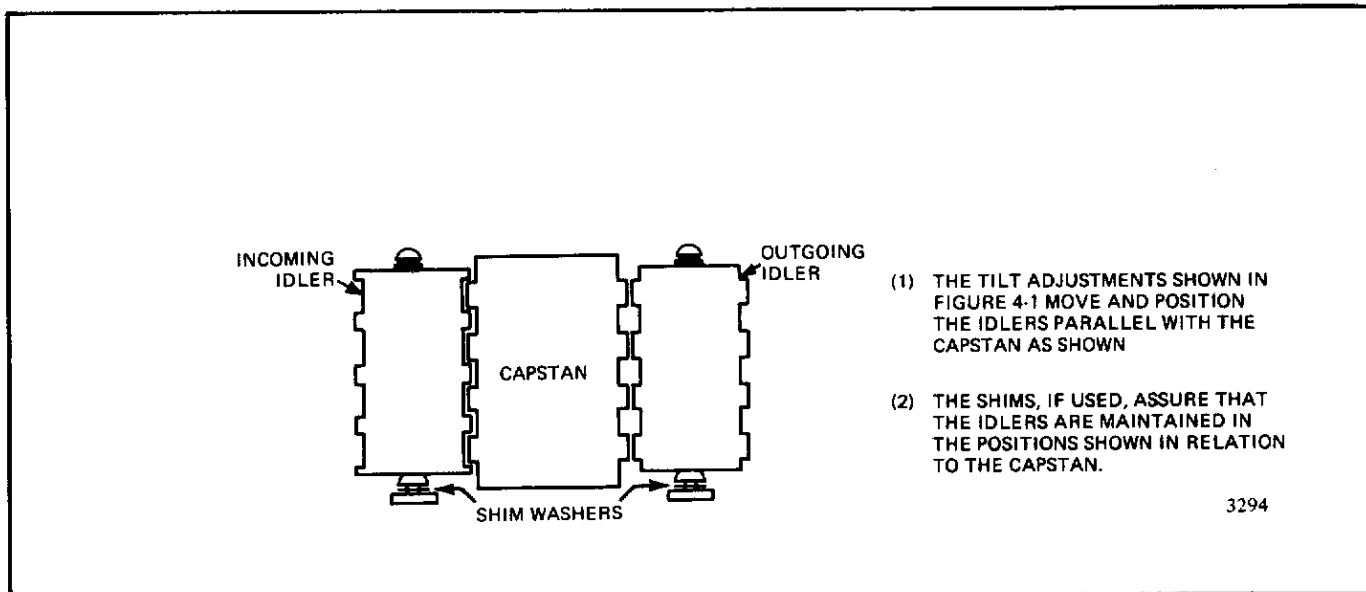

Figure 4-3. Capstan Idler Alignment
**4-31. Capstan Idler Tracking.** The alignment of the capstan idlers with the capstan is important in maintaining the proper tape tension within the Isoloop. Shims may be used under the idler to shift the idler up or down, depending on the alignment needed. Figure 4-3 shows the proper relationship of the idlers to the capstan and the position at which the shims are placed. The tilt adjustment is shown in figure 4-1 and is used to align the idlers parallel with the capstan.